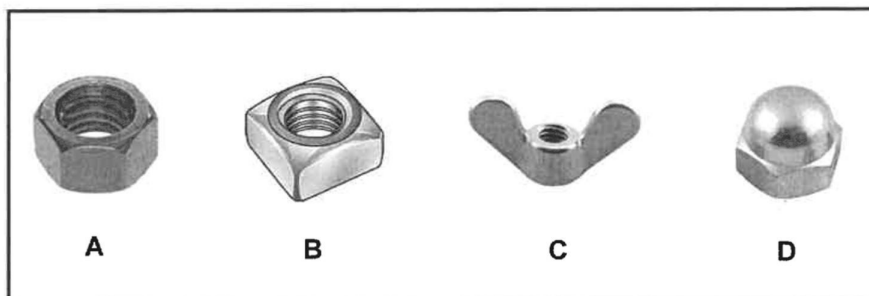

FIGURE 5.2
5.2 FIGURE 5.2 below shows joining fixtures.